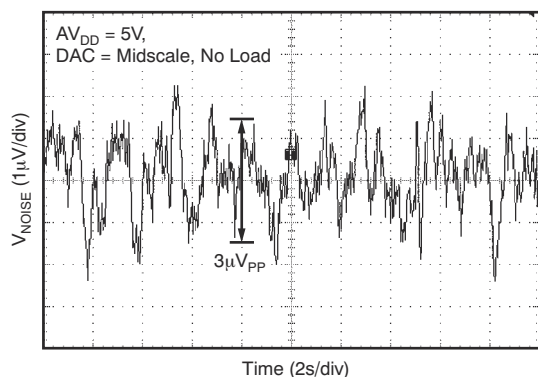

Figure 7-24. DAC Output Noise, 0.1-Hz to 10-Hz Bandwidth
(5) For more details, see Figure 7-24.